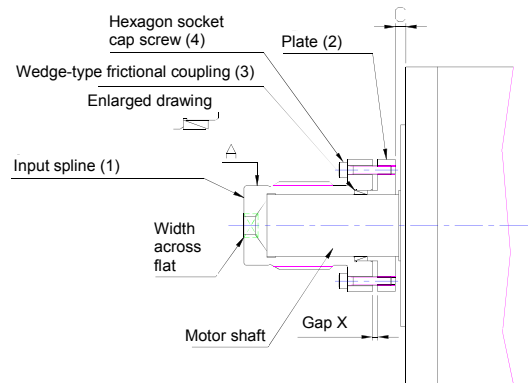

Fig. 5-9
- Step 1** • Assemble the wedge-type frictional coupling (3) into the input spline (1) as shown in Fig. 5-9.
- Step 2** • Assemble the plate (2) into the input spline (1), and then temporarily secure it with the hexagon socket head cap screws (4).
- Step 3** • Press the hole base of the input spline (1) onto the edge of the motor shaft completely. (During assembly, the input gear slightly slides.)
- Step 4** • Tighten the hexagon socket head cap screws (4) with the recommended tightening torque. After tightening, check that the gap X is equal at any point along the circumference. (Reference: Table 5-1 in “5.2 Bolt tightening torque”)
- Check dimensions C to see if the input spline (1) has been assembled as in the specified dimensions. For dimensions C, refer to “Outer dimensions” drawing.
- Step 5** • Check for deviation during rotation at position A of the input spline (1). If the deviation is within 50  $\mu\text{m}$ , the procedure is completed.
- Step 6** • If the deviation of the input spline (1) exceeds 50  $\mu\text{m}$ , loosen the hexagon socket head cap screws (4) and then perform adjustment by repeating step 2 and subsequent steps.